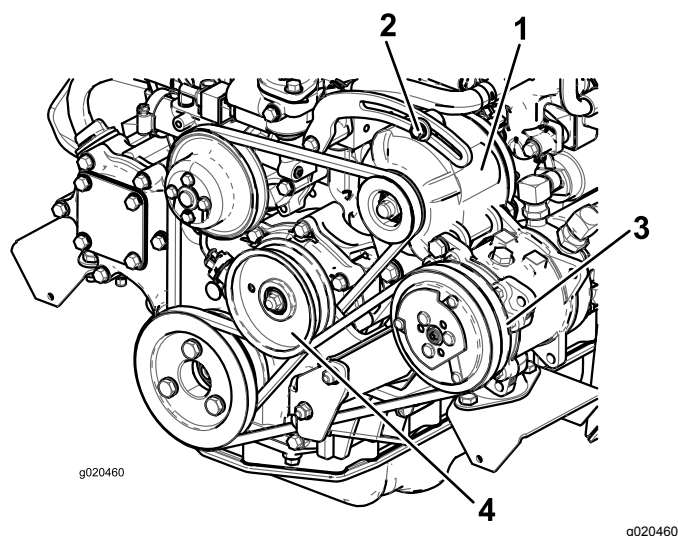

Figure 98
If the deflection is not 10 mm (3/8 inch), loosen the alternator-mounting bolts (Figure 98).
2. If the deflection is not 10 mm (3/8 inch), loosen the idler pulley mounting bolt (Figure 98).